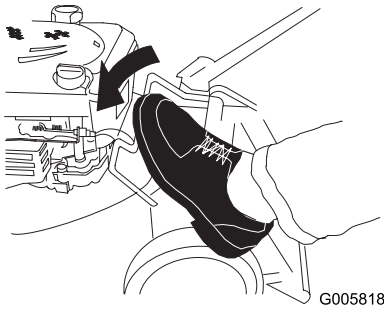

Figure 48
2. Step on the handle release lever (Figure 48).